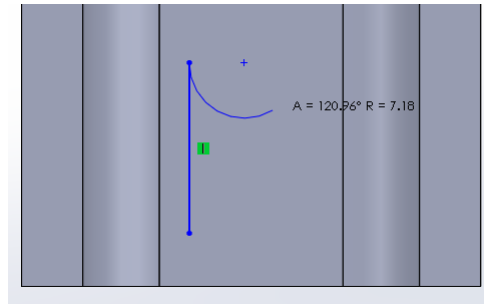

Fig24
- If the pointer leaves the starting point approximately along the previous segment the result will be an oppositely orientated tangential arc (Fig24);